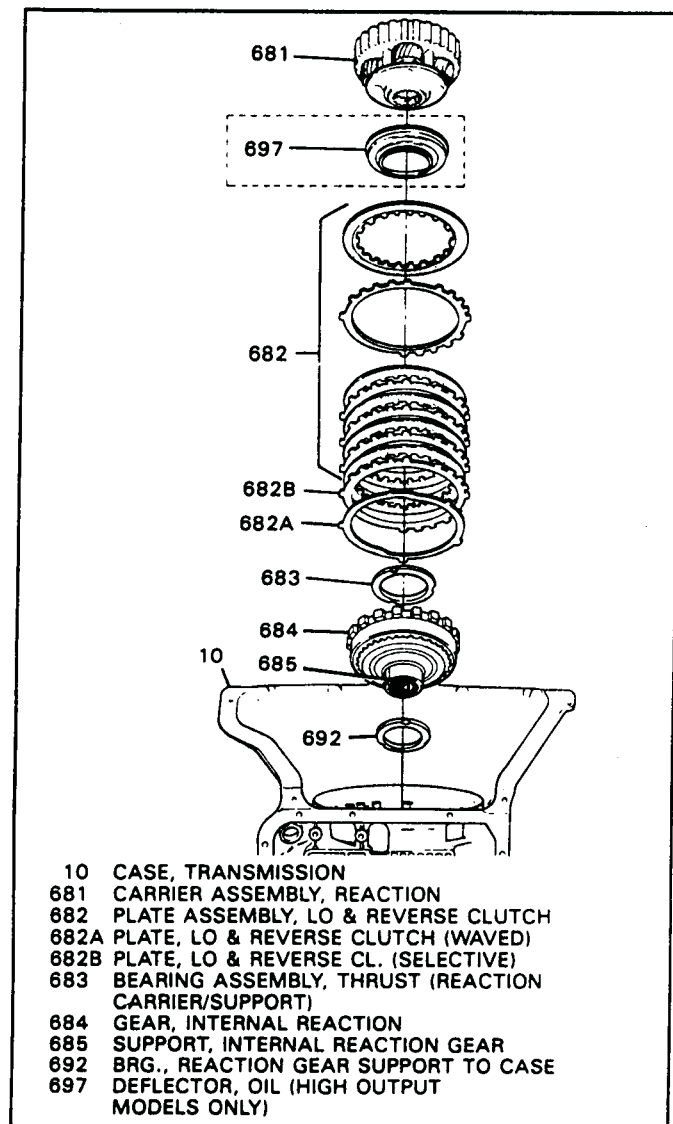

Figure 89
1. Install the Low/Reverse clutch "Waved" plate into the case (See Figure 89).
3. Install the Low/Reverse clutch plates beginning with a friction plate on top of the selective, and alternating with steel plates until five friction plates and four steel plates have been placed into the case (See Figure 89).
6. A friction plate should be the last plate installed (See Figure 89).